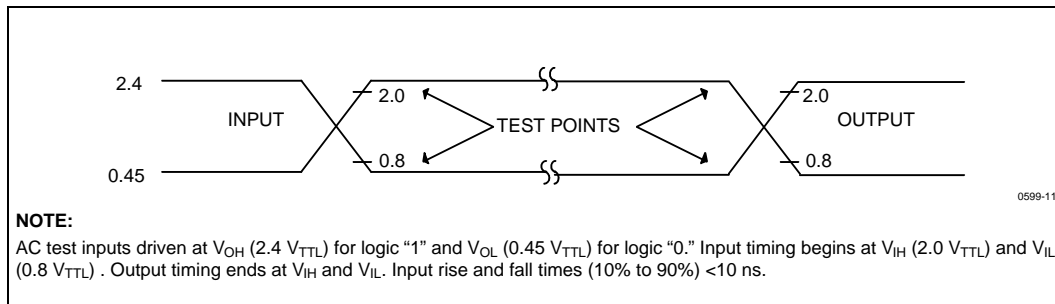

Figure 12. Standard Test Waveform
1. 10% VCC specifications apply to the standard test configuration (Figures 12 and 13).